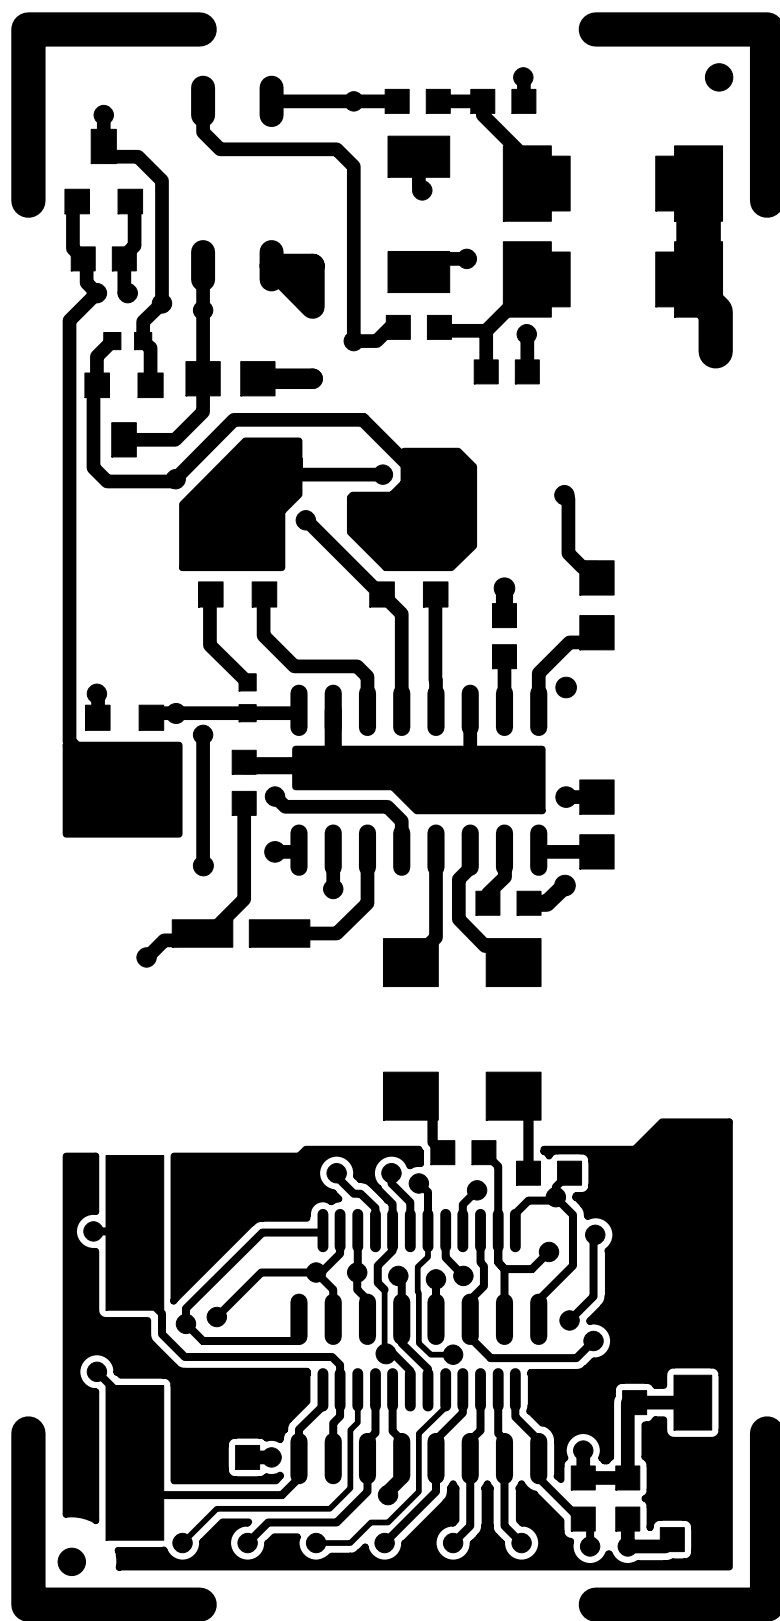

Figure 22. Daughter Card Component Side Layout
- Updated Figure 22, "Daughter Card Component Side Layout," on page 26